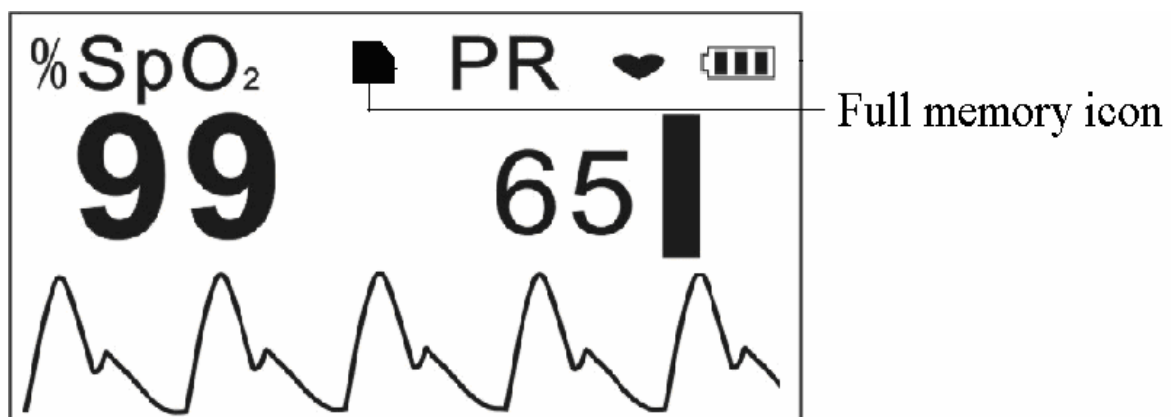

Figure 11 Memory Full
- During measuring, if the memory is full or the total number of the records is 1024 pieces, the earliest records will be overwritten and the icon “” will appear on the screen for prompt, as shown in Figure 11.